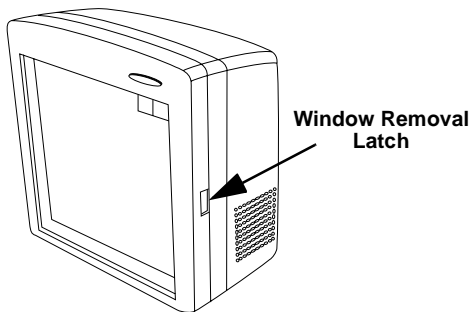

Figure 4-1. Removing window from an LS 5700
- Press window removal latch and rotate forward (Figure 4-1).